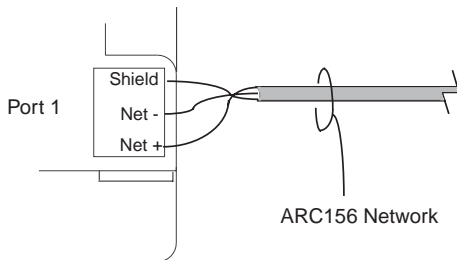

Figure 11. ARCnet Network Connection
2. Wire ARCnet network input cable to BACLink port 1 (see Figure 11).